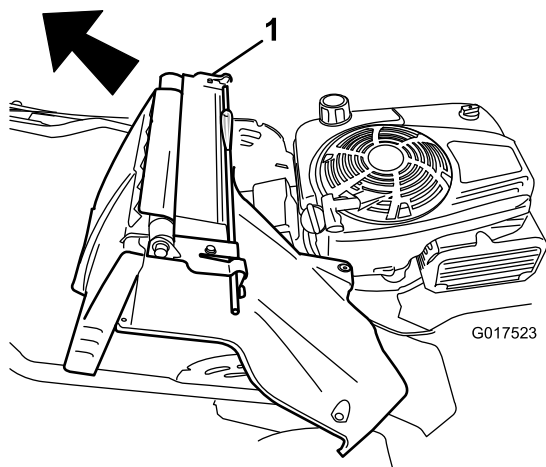

Figure 33
7. Remove the rear deflector and handle-lock lever assembly (Figure 33).